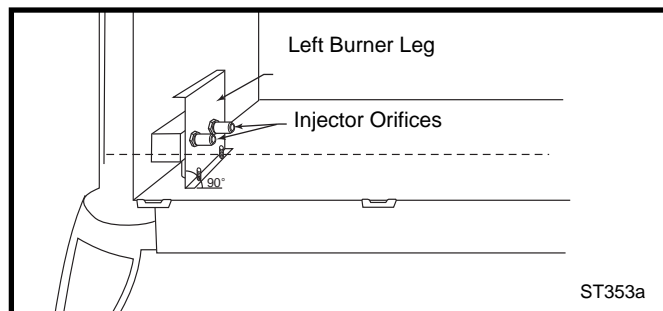

Fig. 66 Remove and replace injector orifices.
8. Remove injector orifices from left burner leg using 1/2" wrench. (Fig. 66)
NOTE: It is very critical to keep the left burner leg, which holds the injectors, at a 90° angle to the base. (Fig. 66) This keeps the orifices aligned with the tubes inside burner. Failure to do so could affect the flame appearance and performance of the unit.